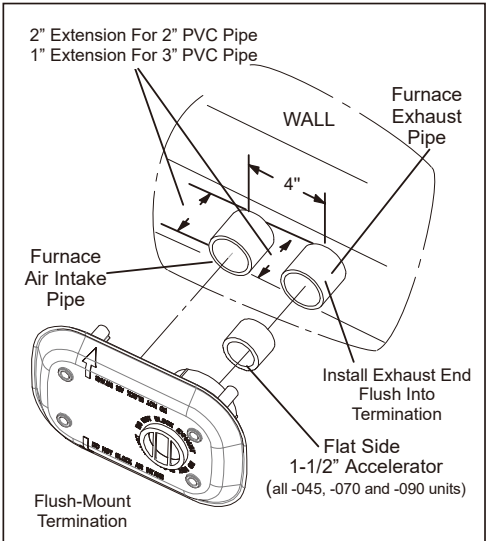
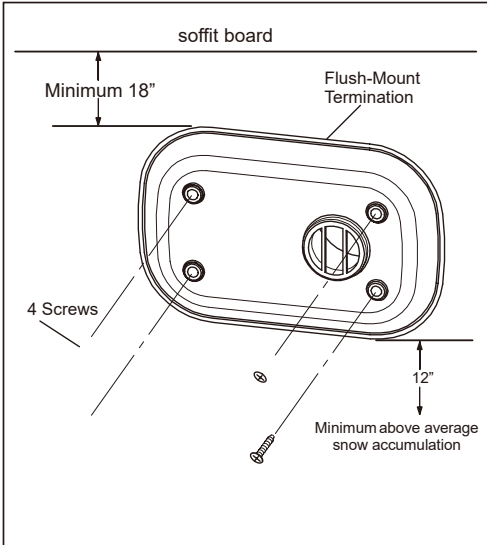
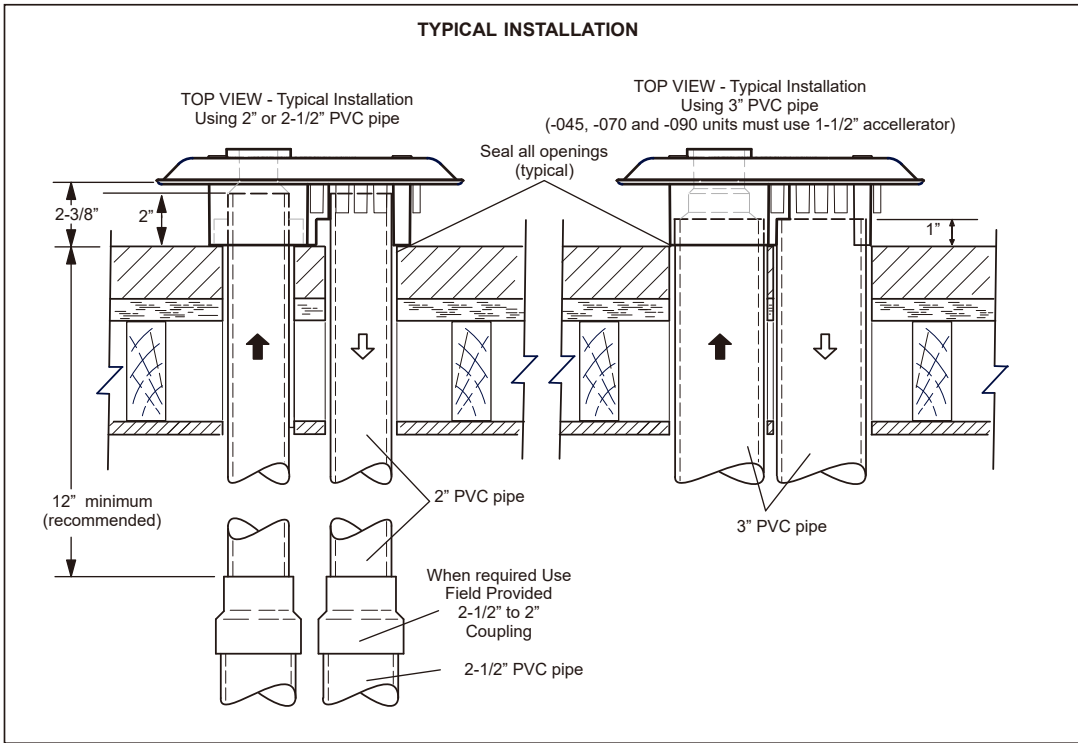

Fig.7-18
Fig.7-19
Fig.7-20
5. When determining pipe length, include the length of exhaust and intake pipes that extend beyond the wall and are flush into the flush mount termination. For 3" pipe add an extra inch to the overall length. For 2" pipe add an extra 2" to the overall length. See Fig. 7-18.
6. The 1-1/2" accelerator must be used for all unit installations. Fully insert and glue the accelerator (flat side first) into the 2" exhaust opening. See Fig. 7-18.
7. Install the intake pipe and exhaust pipe through the holes drilled in step 4 and into the flush mount termination. Exhaust pipe may be glued but it is not necessary. See Fig. 7-18. Seal all openings as indicated in Fig. 7-20.
8. Secure the flush-mount termination to the wall using the provided screws and anchors or field-provided screws if applicable. See Fig. 7-19. Termination should be flush against the wall as shown in Fig. 7-20.